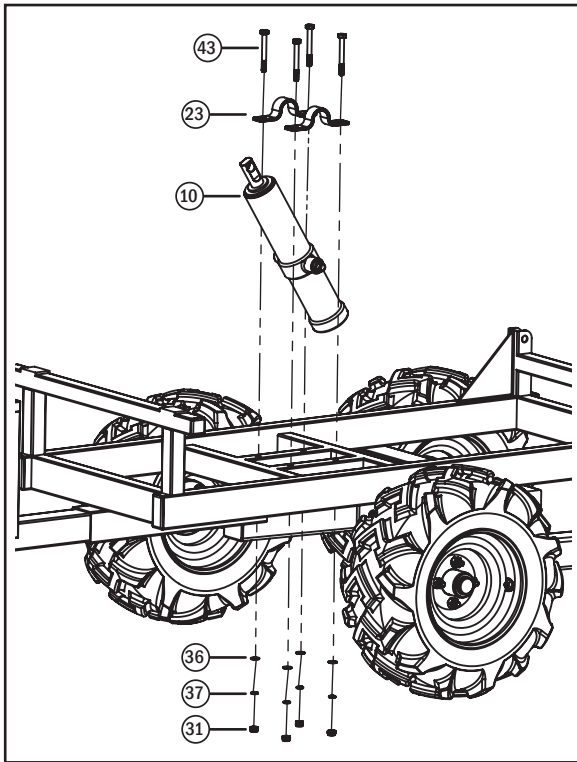

Fig. 9
to clamp it in place by using four M10x90 Bolts (43), M10 Flatwashers (36), M10 Lockwashers (37), and M10 Locking Nuts (31) to secure in place as shown in Fig. 9. Use a torque wrench and tighten between 30 to 35 ft-lbs (40 to 48 Nm).